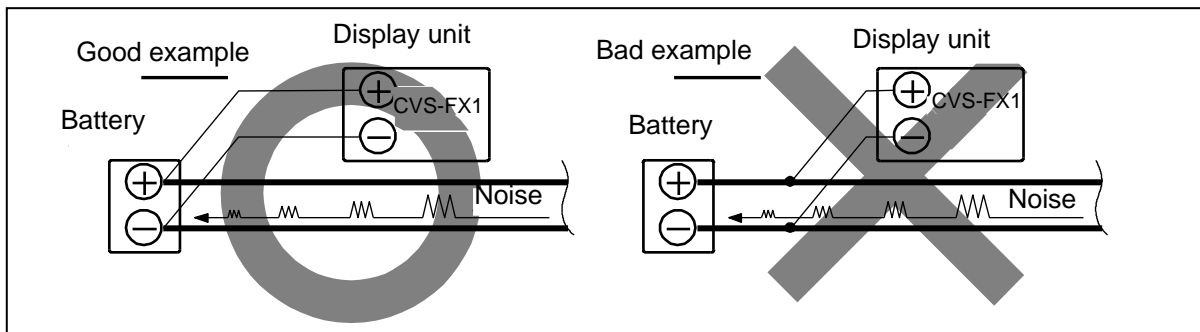

Fig. 1.1 Connection of Power line
- (3) If you connect the power cable directly to the battery, interference from the other electronic equipment is expected to be less. (See Fig. 1.1)